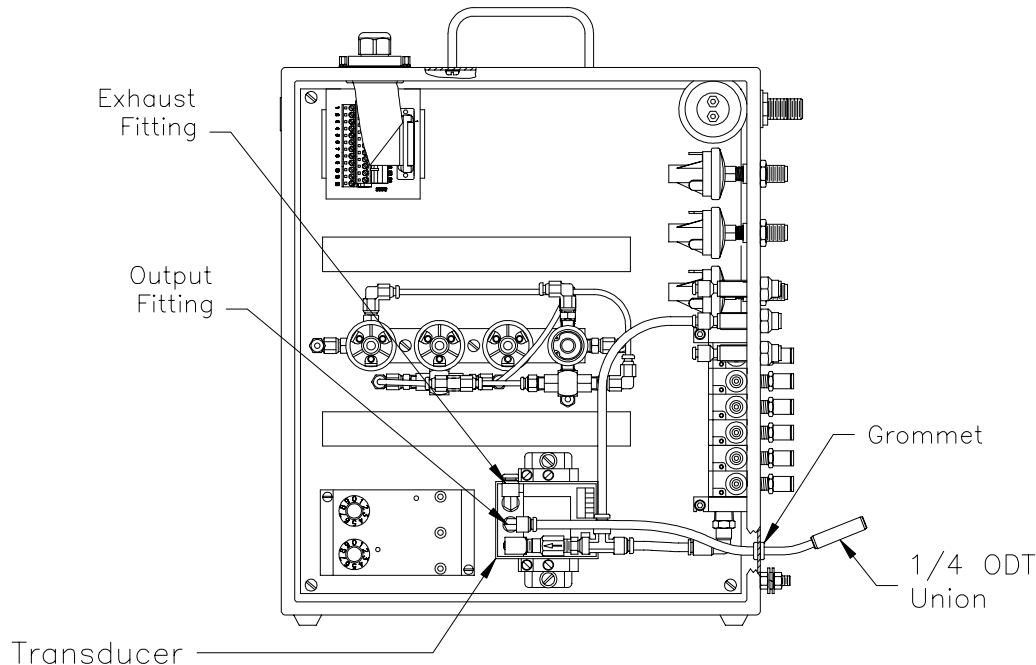

Figure 2: Remote Interface System Interface Box
E-Z FLOW REMOTE INTERFACE SYSTEM (77357-1xxx & -3xxx) (See Figure 2)
4. Snap the transducer back onto the DIN rail. Reconnect 501 supply air as shown in Figure 2.
5. Cut a short piece of 1/4 OD tube from that supplied in the kit and plumb from the transducer output fitting through the grommet, as shown in Figure 2. Install the 1/4 ODT union on the other end of the tube passing through the grommet. For units with bulkhead adapters, connect the 1/4 OD tube directly from the transducer output fitting to the bulkhead adapter.